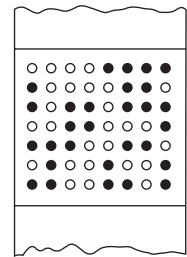

Fig. 1.15 Numbers on Magnetic Tape.
16. Figure 1.15 shows a strip of magnetic tape. The black circles are magnetized points and the white circles are unmagnetized points. What binary number does each horizontal row represent?